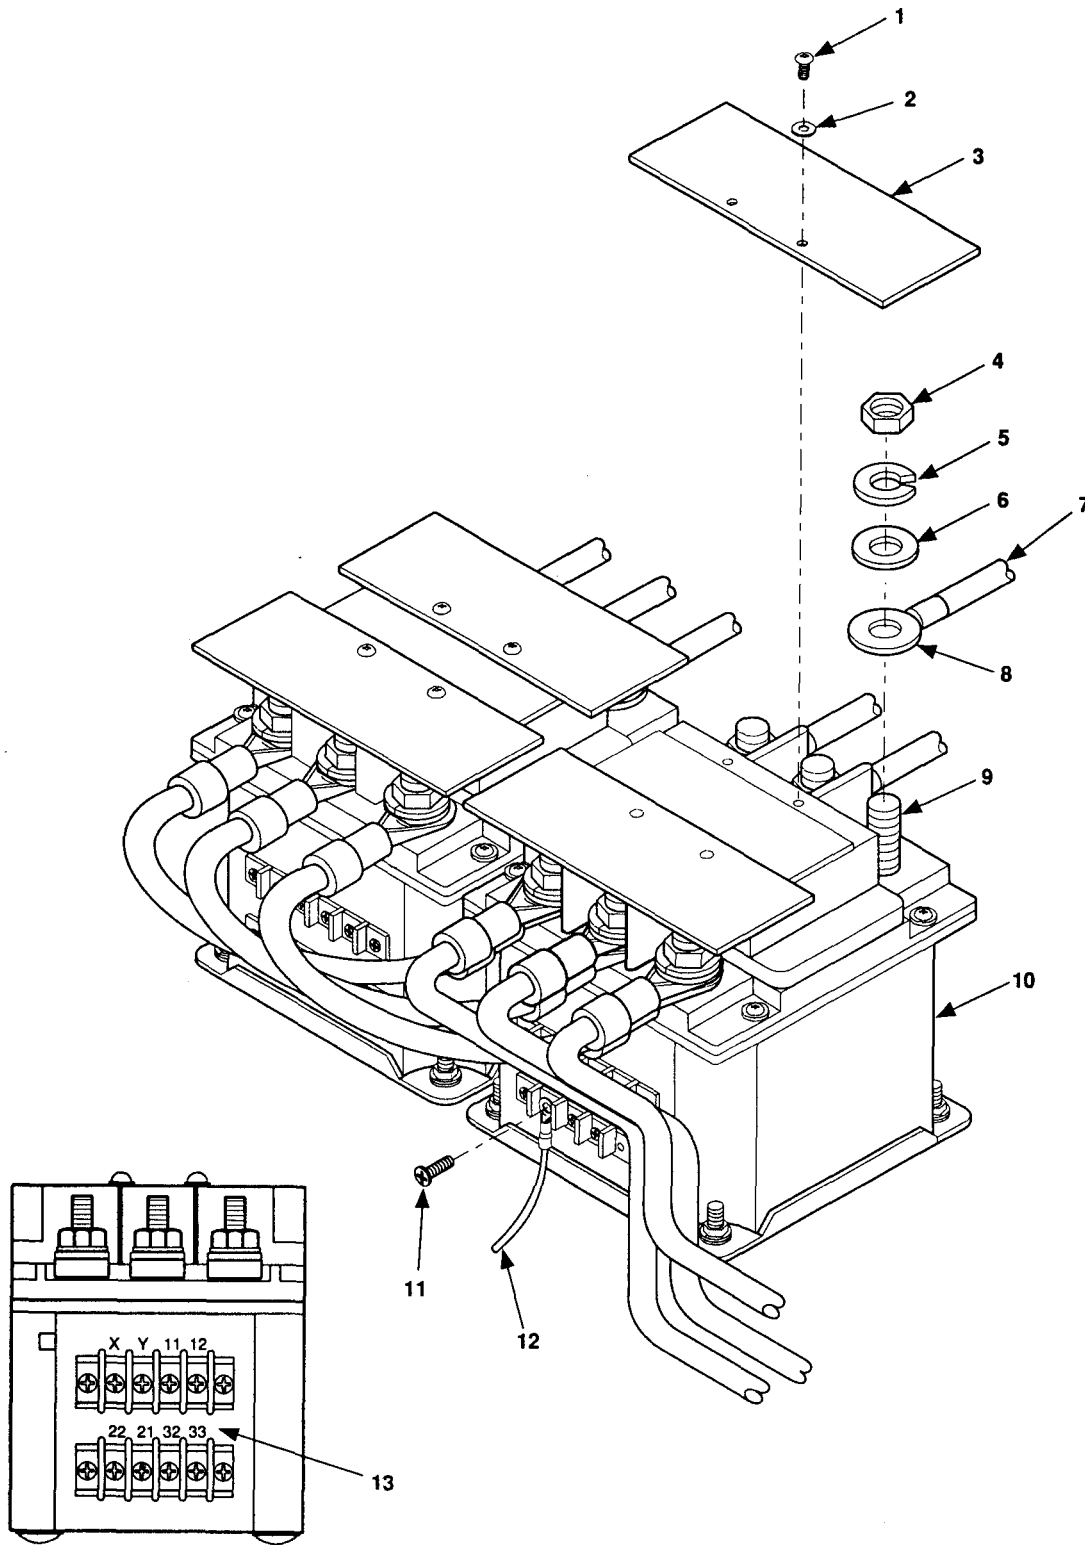

Figure 5-10. Disconnet Swifch Box Harness W9 From Contactor.
1. Remove two screws (1, figure 5-10), lock Washers (2), and contactor shields (3) that cover contactor terminals A2, B2, and C2 of contactor K1 and K2, and terminal A1 of contactor K2.
8. Refer to table 5-1 and install W9 wires (7, figure 5-10), flat washers (6), lock washers (5), and nuts (4) on contactor terminals (9).
9. Refer to table 5-1 and install W9 leads (12) on terminals (13) using screws (11).
10. Install contactor shield (3), two lock washers (2), and screws (1) over contactor terminals A2, B2, and C2.